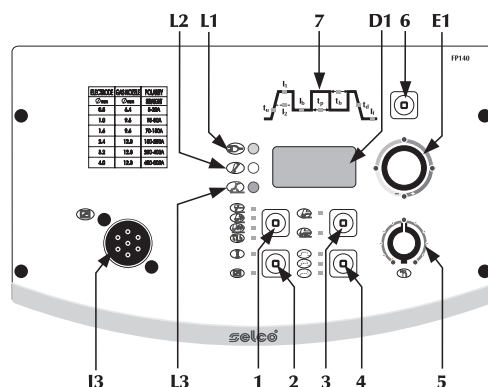

Fig.2
2.1.2 Kontrollpanel foran FP140 (Fig. 2)